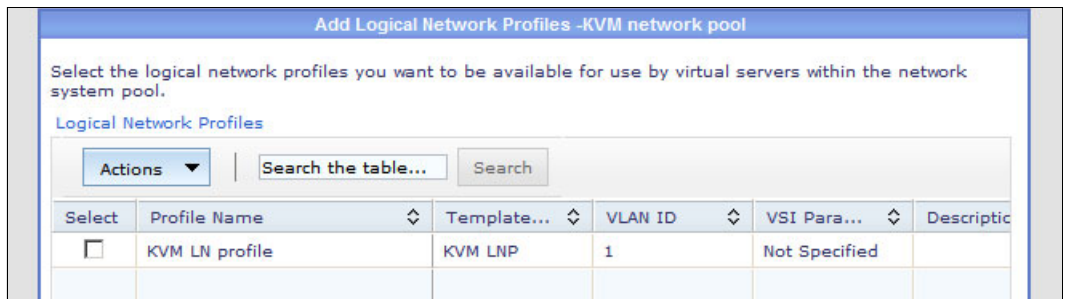

Figure 9-88 Create Network System Pool: Add Logical Network Profiles
12. Select the logical network profile, as shown in Figure 9-88. Click **OK**.